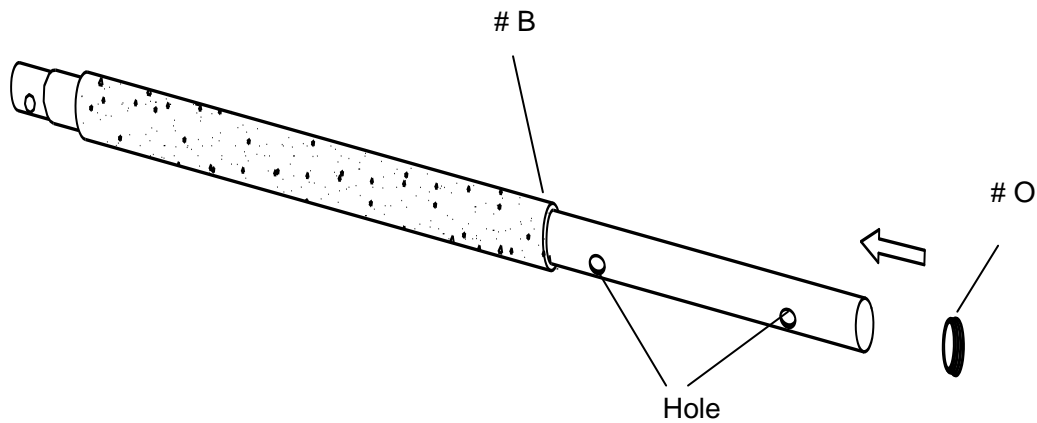

FIGURE 17
- A. Attach End Cap (# O) to the Lower Frame Tube with Foam (# B); please make sure that the End Cap (# O) is inserted to the side closer to the hole on the Frame Tube as shown in FIGURE 17.